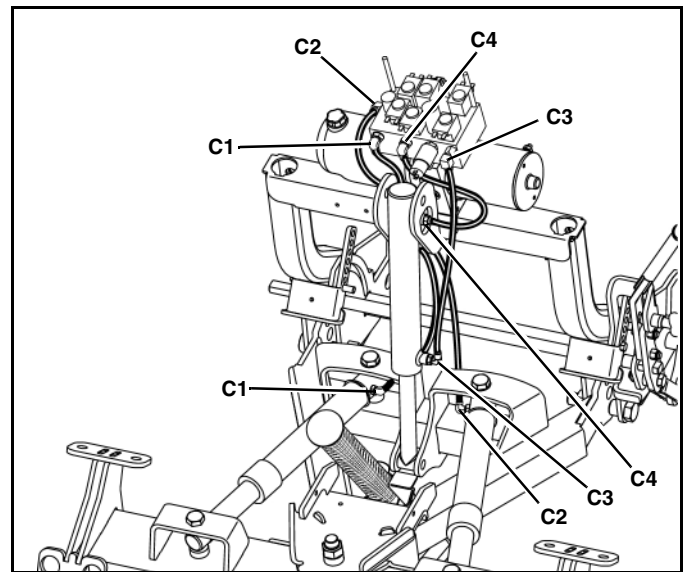

Figure 1-16
16. Route and connect hoses from C1 and C2 on the valve housing to the swing cylinders as shown. (See Figure 1-16).
17. Connect hoses from C3 and C4 on the valve housing to the lift cylinder as shown. Check hoses for pinching or binding. (See Figure 1-16).